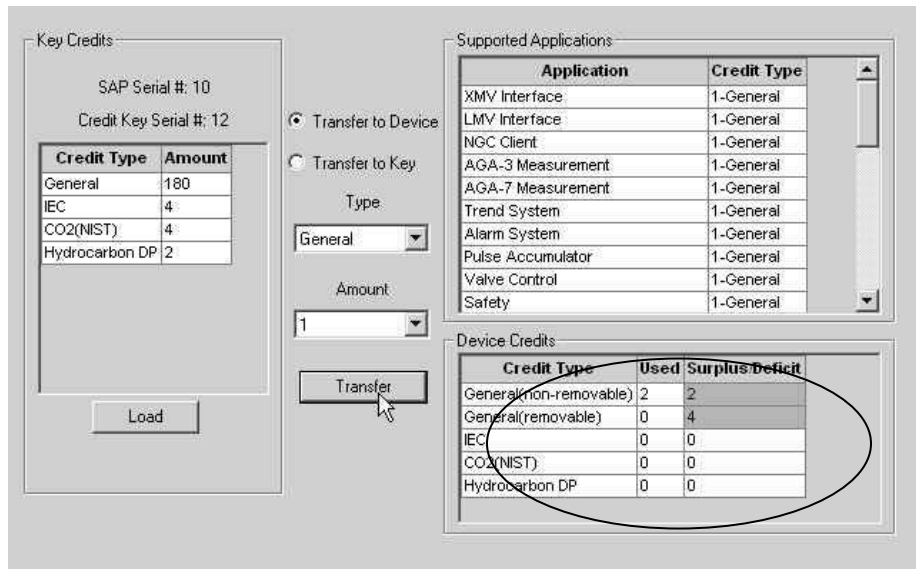

Figure 80 Transferred to Device Application Credits
11. Transferred credits should now show up on the lower right-hand side (see Figure 80).